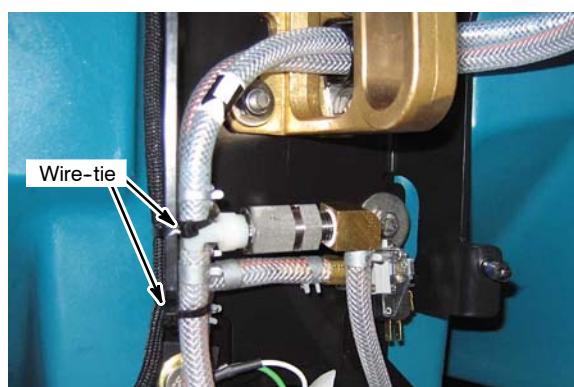

Fig. 42
11. Secure the *ec-H2O* solution hose assembly with two wire-ties [p/n 130773] as shown (Figure 42).